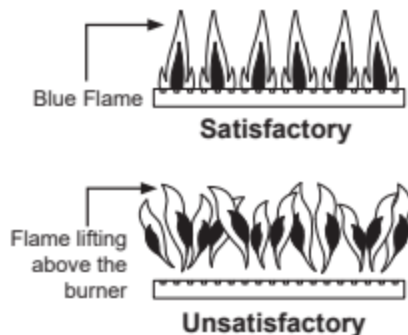

Figure 47 - Check Burner Flames
- Visually check the burner flames through the burner window (sight glass) on the burner assembly. The burner assembly is located in the middle of the water heater. A properly operating burner should produce clear, blue, stable flames. The flames should not be lifting above the burner. Contaminated air may cause a discolored flame. Contact a qualified technician if the flame is not satisfactory. See Figure 47 below for burner flame reference.